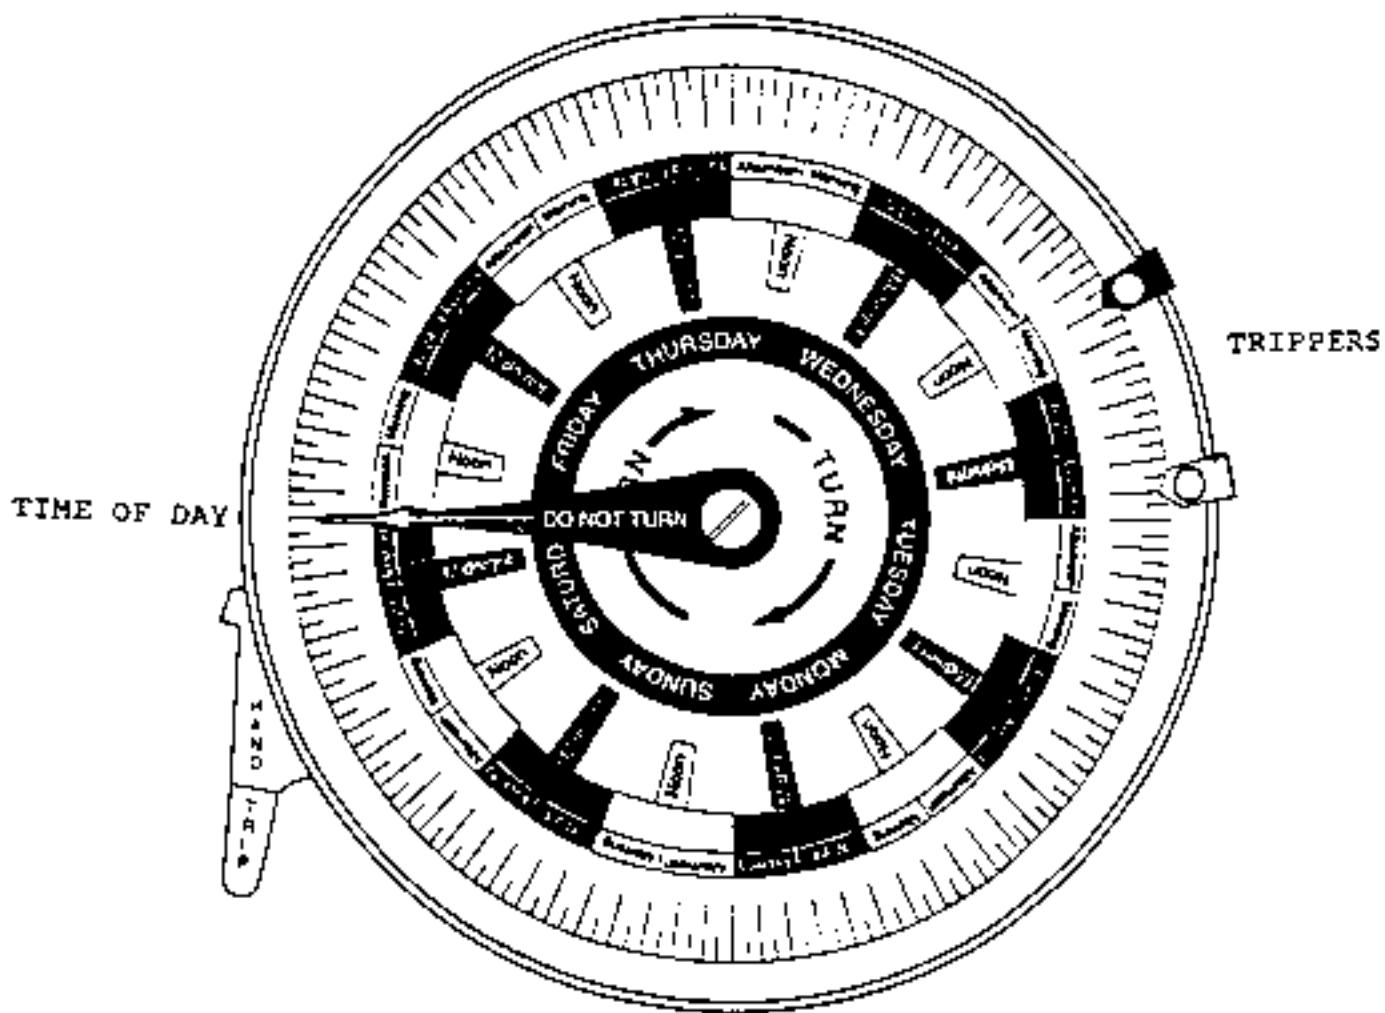

Figure 1. Mechanical Timer
Figure 1 shows the timer. Each week check the operation of the timer and pump. The following checks should be made:
Upon arrival at the site, make an initial inspection of the equipment to determine proper operation for the week. This procedure is accomplished every week. When a sample is set up, this procedure should be used to check final settings before leaving the site. Refer to Figure 1 for timer details. Check the elapsed time counter reading on the lower left corner of the timer. Record this number on the Sample Data Sheet. The counter reads in hundredths of an hour or minutes. The large red arrow should point to the correct day and time. Note any discrepancies on the Sample Data Sheet. The switch trippers should be firmly attached to the timer rim with the silver tripper at the last scheduled start time and the black tripper at the last scheduled stop time.
8.5.2 Turn the sampler on using the hand trip switch (Figure 1) and allow it to warm up for at least 10 minutes.
8.7.1 Turn the large ring (Figure 1) clockwise so that the red pointer points to the correct day and time.
8.7.2 Attach the switch trippers to the timer ring (see Figure 1). The *silver*-colored tripper should be positioned at the start day and time and the *black* tripper on the end day and time specified in the monthly site protocol. The trippers should be attached so that the thumb screw is to the front. The screws should be hand tightened so that the trippers rest firmly against the rim of the ring.
- 6.2 Attach the switch trippers to the timer ring (see Figure 1). The *Silver-colored* tripper should be positioned at the start day and time and the *Black* tripper on the end day and time specified in the monthly site protocol. The trippers should be attached so that the thumb screw is to the front. The screws should be hand tightened so that the trippers rest firmly against the rim of the ring.